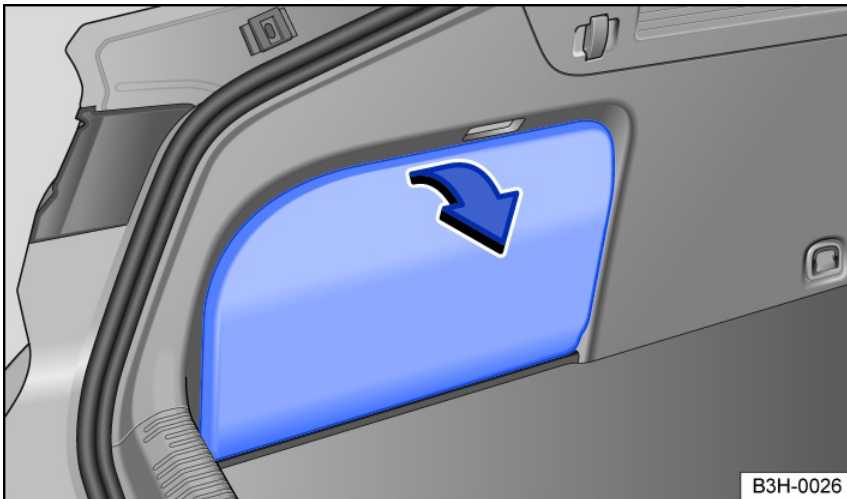

Fig. 141 In the luggage compartment: Side storage compartment with cover.
1. Pull the cover in the direction of the arrow *fig. 141*.
1. Push the cover in the opposite direction of the arrow *fig. 141* until it engages.